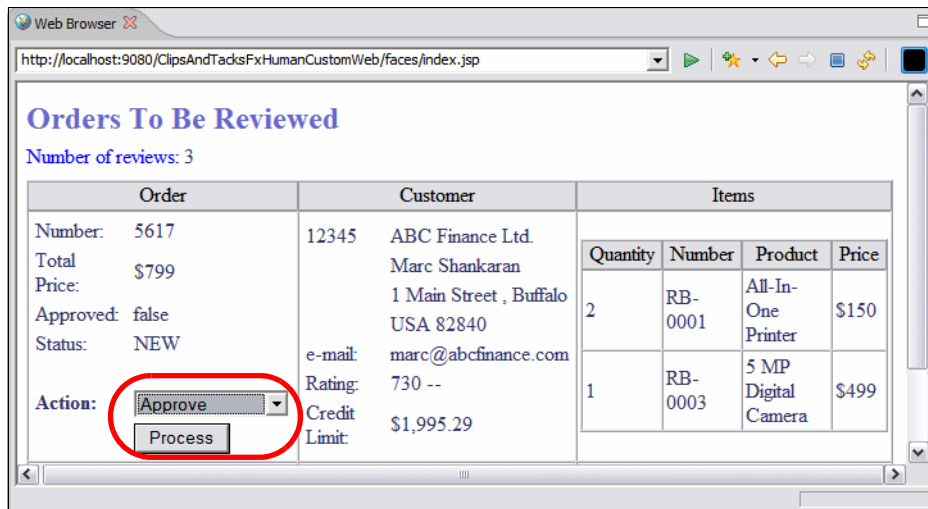

Figure 10-74 Human task application: Orders for review (1)
- ▶ Click *Review Orders* and the orders to be reviewed are displayed (Figure 10-74).